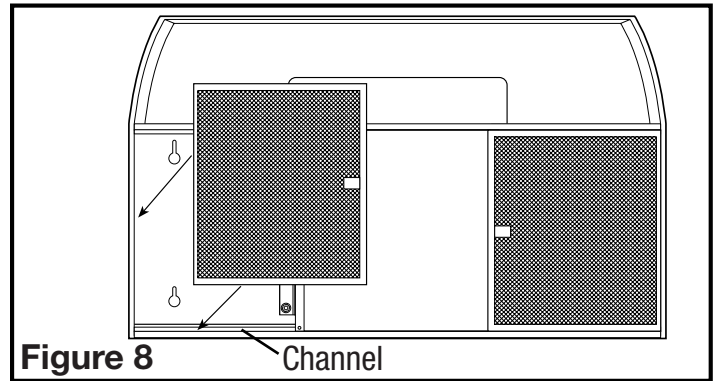

Figure 8
2. Reinstall the filters by fitting them into the channel on either side of the hood and pushing upwards on them until they are secured in place (Figure 8).